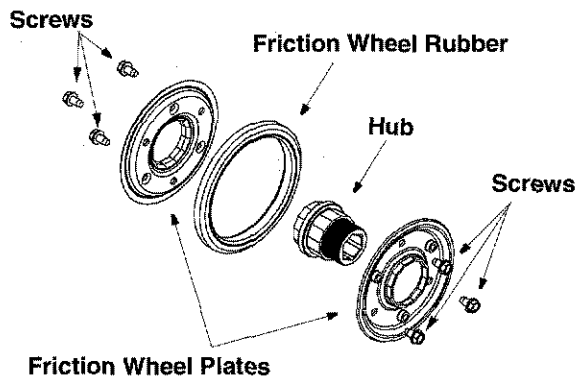

Figure 23
- Remove the six screws from the friction wheel assembly (three from each side). Remove the friction wheel rubber from between the friction wheel plates. See Figure 23.